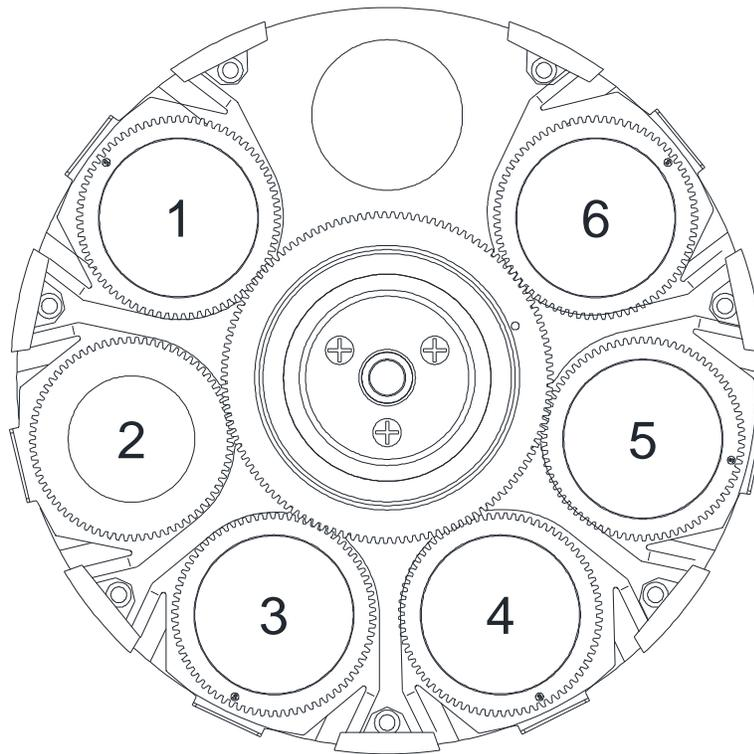

Figure 4-9: Gobo Wheel 1 Positions
- Rotate gobo wheel so that first position is accessible. Refer to **Figure 4-9** for wheel positions.